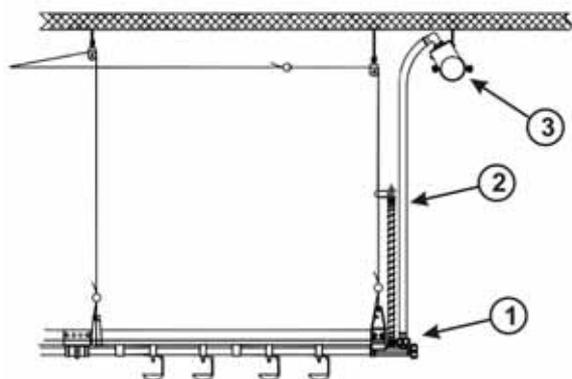

Fig. 1: Schematic illustration of the rinsing outlet
An automatic breather (fig. 1, pos. 1) is positioned at the end of every nipple line. On the one hand it allows for the air to exhaust out of the nipple line and on the other hand the height of the water column can be read at this position.
The automatic breather is connected to with a drainage by means of a $\frac{3}{4}$ " hose (fig. 1, pos. 2). This drainage which is installed below the house ceiling (fig. 1, pos. 3) leads the rinsing water out of the house.